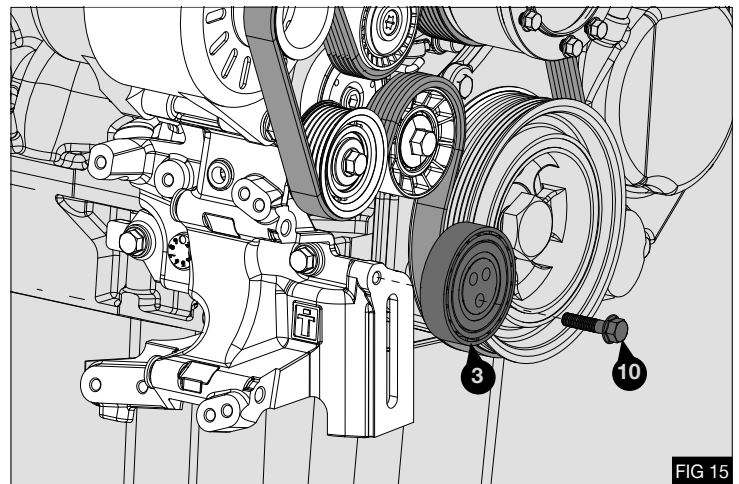

FIG 15
19. Install the eccentric tensioner pulley (3) using bolt (10) - Fig 15